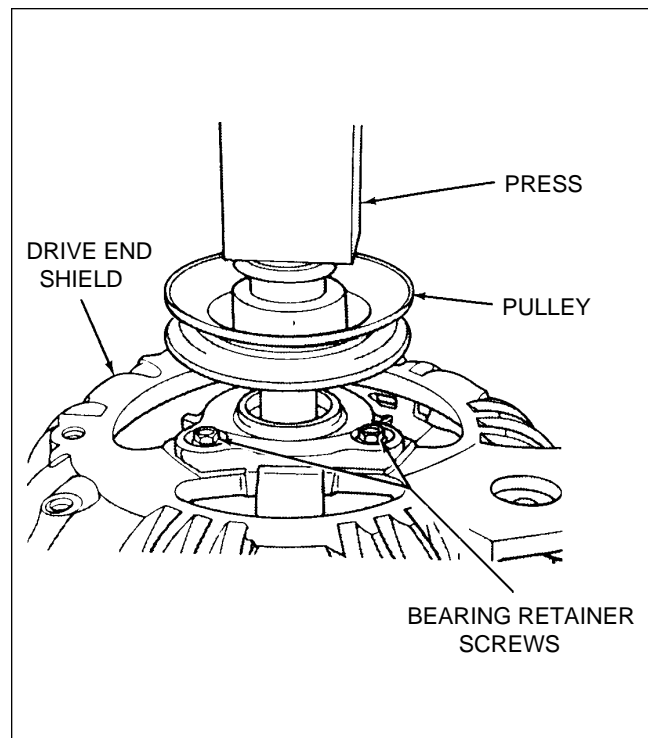

Figure 11-35. Installation of Pulley
e. Install pulley on rotor shaft. Rotor shaft must be supported so all pressing force is on pulley hub and rotor shaft. (Refer to Figure 11-35.)